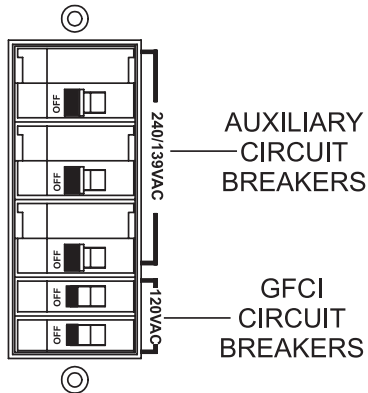

Figure 74. GFCI and Auxiliary Circuit Breakers (OFF)
2. Place the **GFCI and auxiliary circuit breakers** (Figure 74) in the **OFF** position.